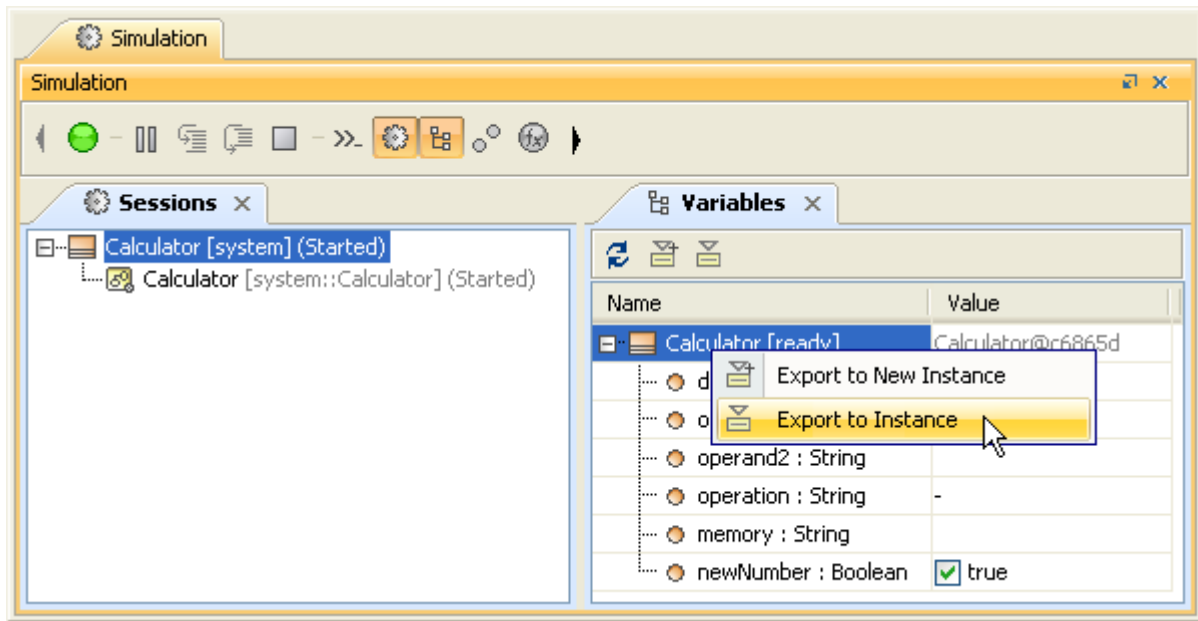

Figure 31 -- Export to Instance Context Menu
1. Either (i) click a row that has a runtime object to be exported in the Name column and click the **Export to Instance** icon on the **Variables Pane** toolbar or (ii) right-click it and select **Export to Instance** (Figure 31).